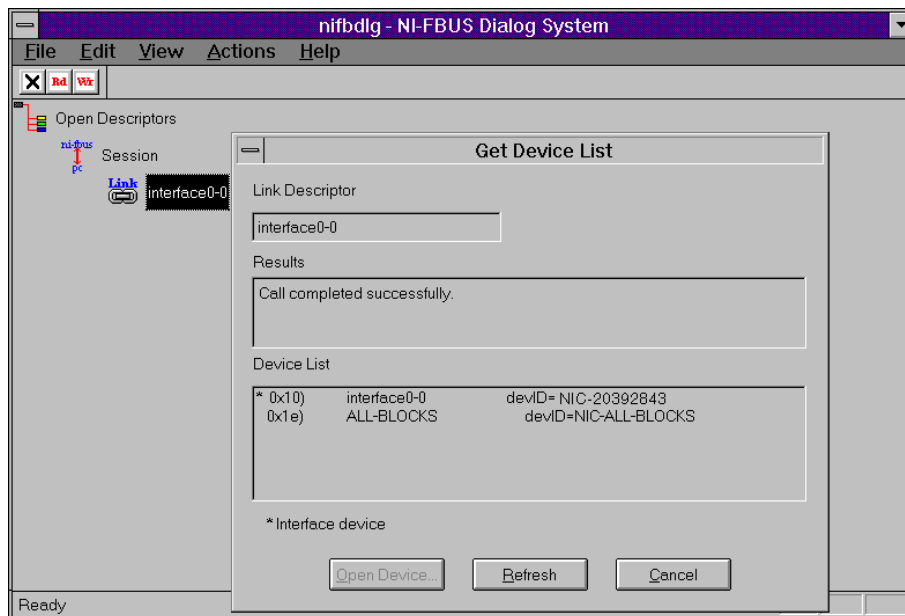

Figure 3-1. Getting a Device List
8. Right-click on the **Link** icon and choose **GetDeviceList**. The NI-FBUS Dialog utility displays a list of active devices on your fieldbus link. Your fieldbus interface board is also included in this list, as shown in Figure 3-1.